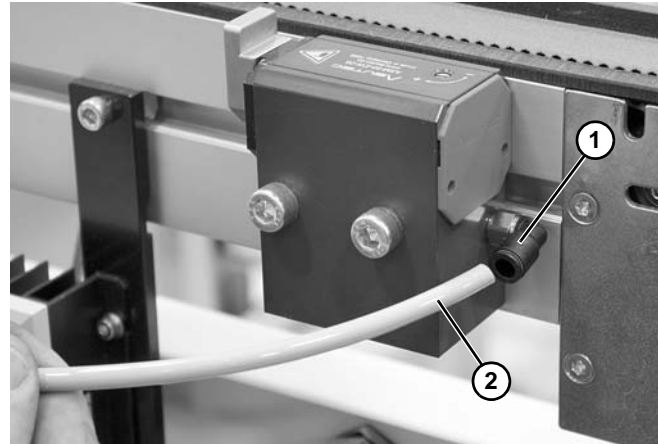

Figure 65
1. Connect the 3 port, 2 way solenoid valve to the stop. Dorner fittings (Figure 65, item 1) accept 1/4" outside diameter tubing standard (Figure 65, item 2).